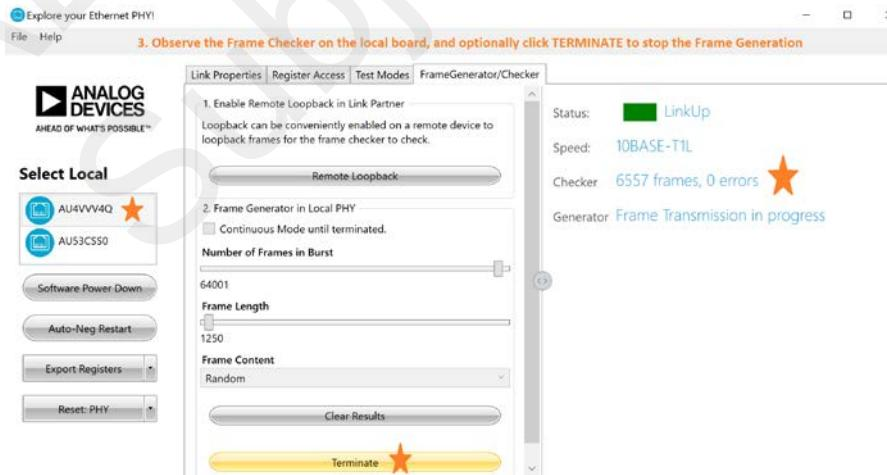

Figure 37. Frame Generator with Remote Loopback enabled – step3
3. The ADIN1100 device which generates the frames also receives frames looped by the link partner ADIN1100. The frame checker information displayed on the screen accumulates the number of frames sent and shows the number of errors observed (see Figure 37).